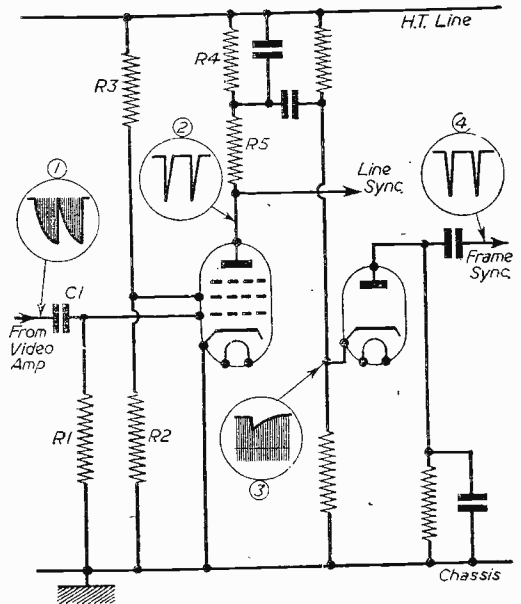

Fig. 2.—Circuit diagram of a sync separator showing the oscillograms which may be expected at various points.
In the sync separator circuit of a TV receiver waveform analysis most certainly aids in hunting out a fault. This is revealed in Fig. 2, which depicts a typical sync separator stage and frame pulse filter (the diode). Oscillogram (1) shows the composite picture and sync pulses; oscillogram (2) illustrates the appearance of the line sync pulses after the picture content has been removed by the limiting action of the pentode sync separator valve. Complete frames with frame sync pulses are depicted in oscillogram (3), while oscillogram (4) satisfactorily indicates a clear frame sync pulse free of line sync pulses as the result of the filter action of the diode.
is with the spikes pointing to the top of the screen) on the grid of a valve, it will be displayed in inverted form on the anode of the same valve—a phase shift is, of course, occurring between oscillograms (1) and (2) on Fig. 2. A 380-degree phase shift will occur over two normal stages, so that the waveform will appear the right way up again.